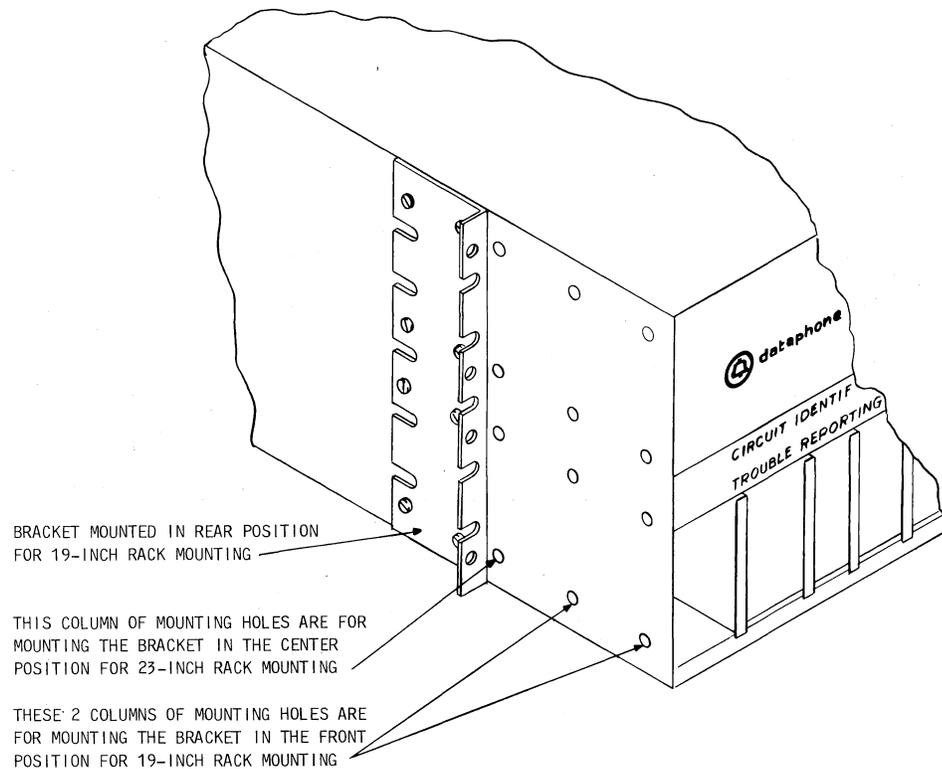

Fig. 9—Location of Mounting Brackets on 510A-L1 DSU
**2.06** Attached to the side of the 510A DSU are "L" shaped mounting brackets, with one leg longer than the other, which permit the DSU to be mounted in 19- or 23-inch racks or in a KS-20018-L19 cabinet. The brackets can be mounted at three locations on the sides of the DSU to permit mounting the DSU as follows (Fig. 9):